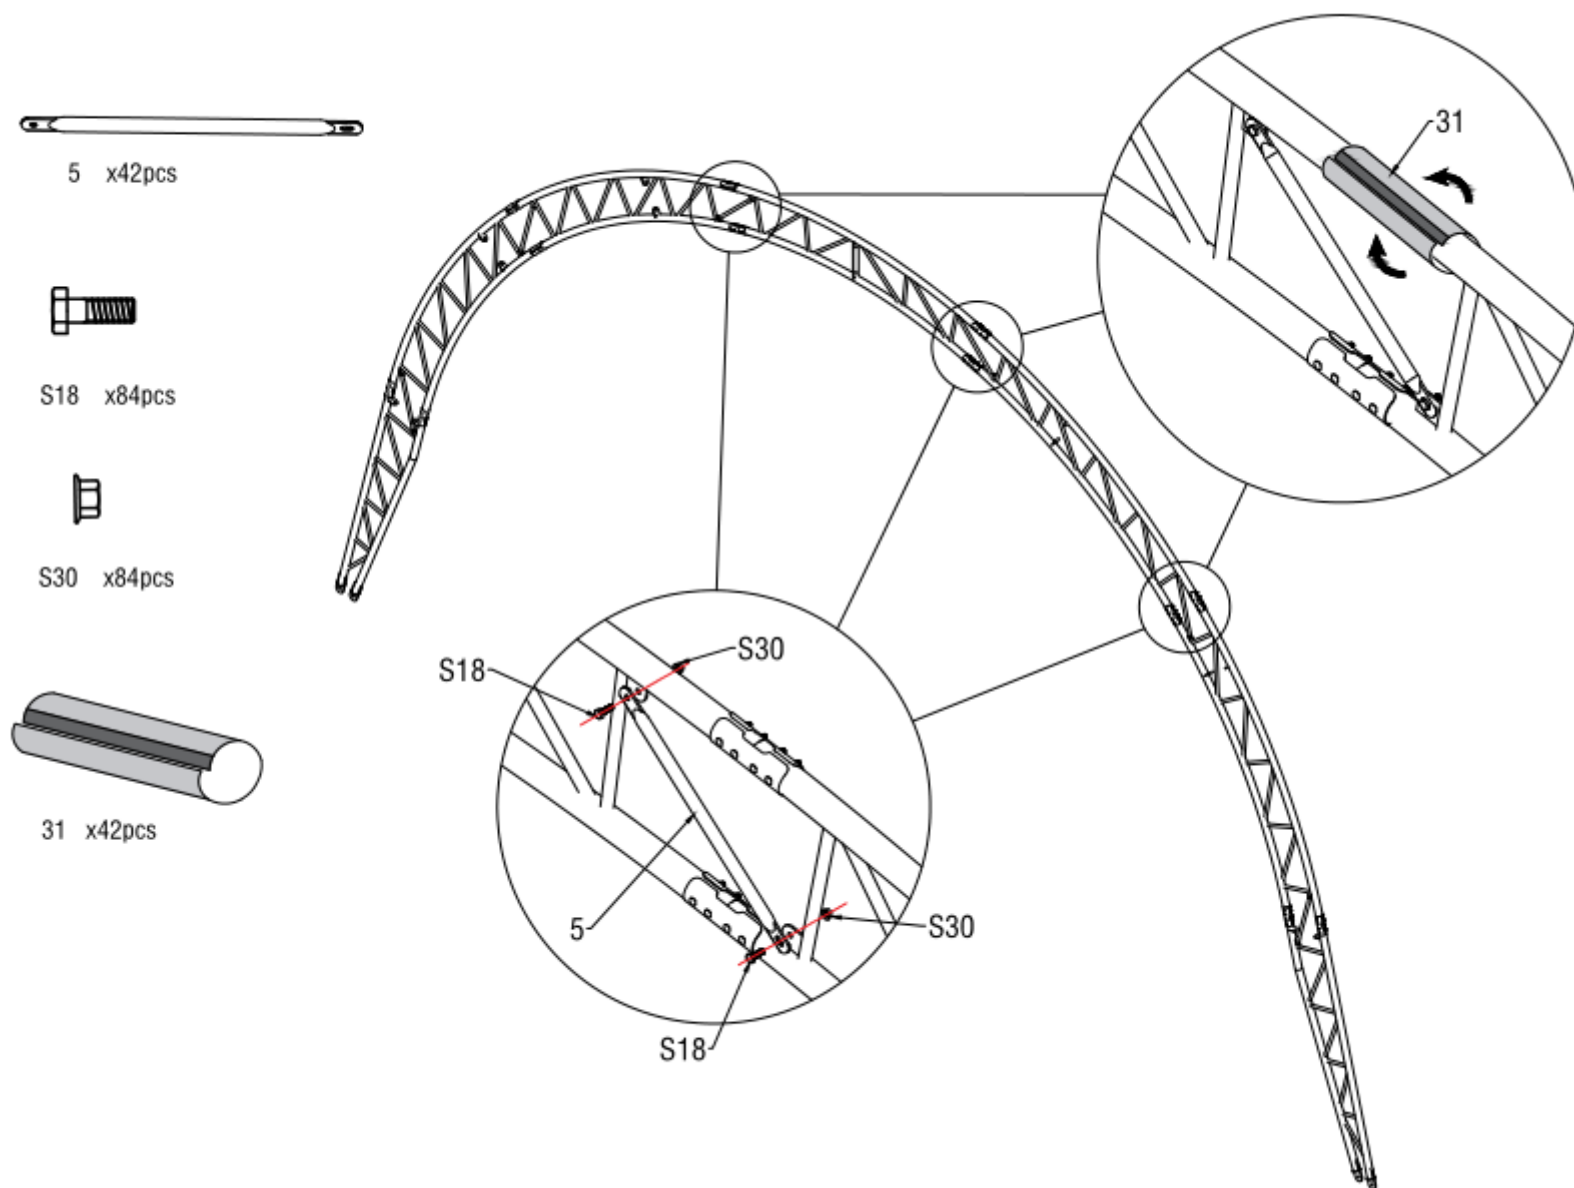

Figure 5
- As figure 5 shown, use the Supporting Webbing between the arch(No.5) to connect the Top roof tube (No.1) with hexagon bolt 10*30mm (No. S18). Then put the PVC protective cover on the outer of connection of the arch to protect the roof cover from scratched by the outer joint. Assemble the rest of the other group double truss arch like this.